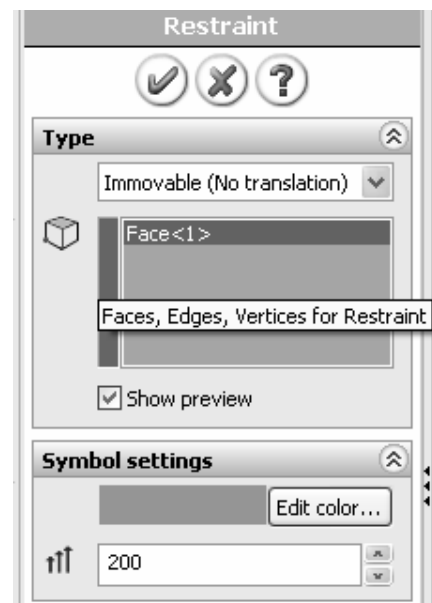
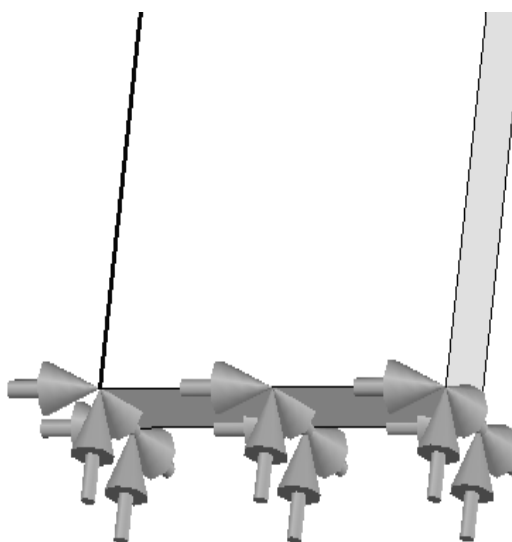

Figure 6 – **Restraint** property manager.
Figure 7 – **Immovable** restraints applied to bottom of the curved beam model.
The **Restraint** property manager opens as shown in Fig. 6.
3. The **Faces, Edges, Vertices for Restraint** field immediately below the pull-down menu is highlighted (salmon color) to indicate it is active and waiting for the user to select part of the model to be restrained. Rotate, and/or zoom to view the bottom of the model. Next, move the cursor over the model and when the bottom surface is indicated, click to select it. The surface is highlighted and, provided the ☒ **Show preview** box is checked, restraint symbols appear as shown in Fig. 7. Also, **Face<1>** appears in the **Faces, Edges, Vertices for Restraint** field.
5. Both color and size of the restraint symbols (vectors in the X, Y, Z directions) can be changed by altering values in the **Symbol settings** field of Fig. 6. Experiment by clicking the up ▲ or down ▼ arrows to change size of restraint symbols. A box of this type, where values can be changed either by typing a new value or by clicking the ▲ ▼ arrows, is called a “spin box.” Restraint symbols shown in Fig. 7 were arbitrarily increased to 200%. Experiment with this option.
**Immovable** restraint symbols shown in Fig. 7 appear as simple arrows or vectors with a straight shaft. These symbols indicate *displacements* in the X, Y, and Z directions are restrained (i.e., prevented).